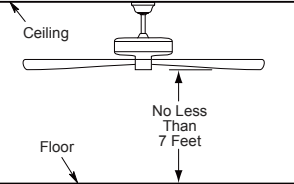

Figure 2
- 2. Remove the hairpin clip and clevis pin from the bottom of the downrod. Retain the pin and clip for reinstallation in Step 4. (Figure 2)
The fan must be hung with at least 7' of clearance from floor to ceiling fan. (Figure 2)